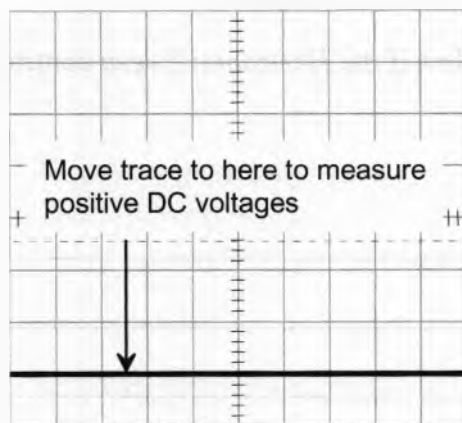

Figure 12a
2. Adjust the *Vertical Position* control so that trace aligns with one of the graticule's horizontal lines (see Figures 12a and 12b). [Note: If you're measuring a positive voltage use a line at the bottom of the screen and if you're measuring a negative voltage then use a line at the top.]